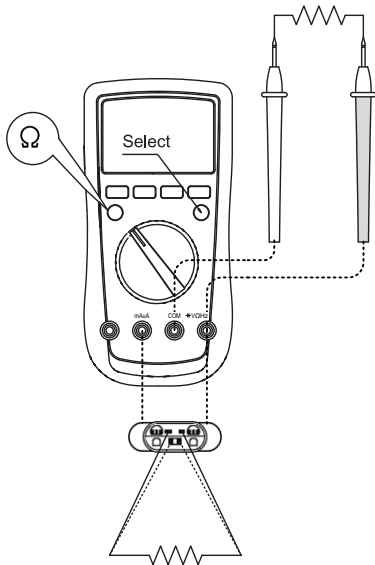

figure 4
C. Resistance Measurement (see figure 4)